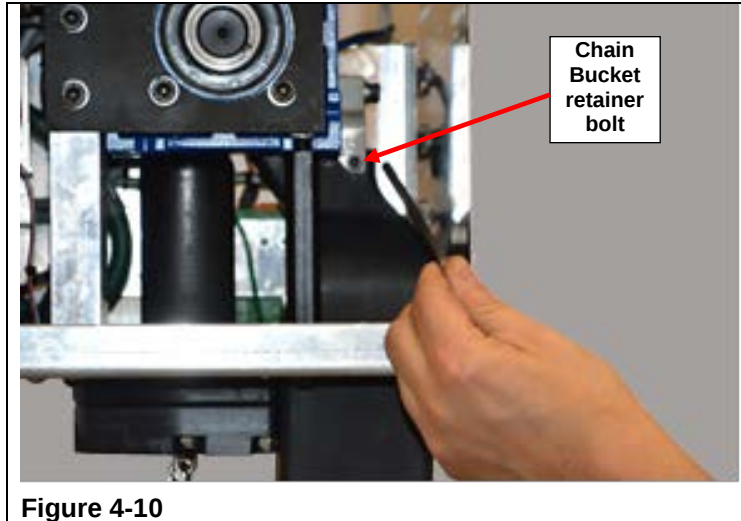

Figure 4-10
- Step 10. While supporting the chain buckets, remove the (1) one M5 retainer bolt that secures both chain buckets inside of the Servo Hoist. (Refer to Figure 4-10)